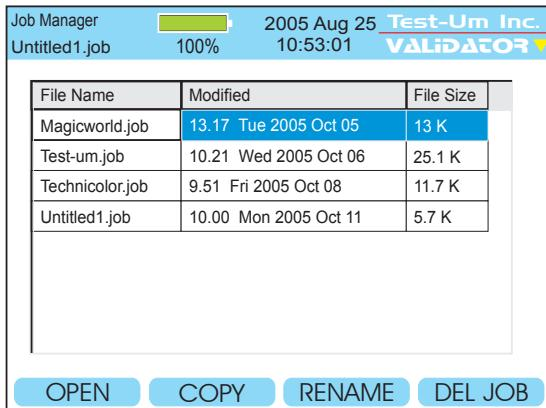

Figure 3.1 Job Manager
The Job Manager screen is used to view a list of all job files stored on the compact flash (CF) card. Use the up and down arrows to highlight the job entry of interest. The soft keys are labeled with the functions that can be performed on the currently highlighted job: **Open, Copy, Rename, or Delete.** (Figure 3.1)